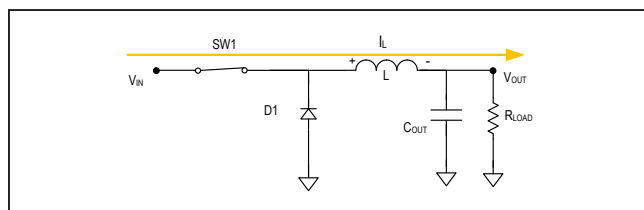

Figure 8. Operation when switch is closed.
A buck or step-down converter is a DC-to-DC power converter that steps down an input voltage to an output voltage of lower value. We achieve this using a switch and diode to deliver a ratio of the input voltage to an output voltage of lower value while keeping the current constant. When SW1 is closed, D1 is reverse-biased, the input voltage (V_{IN}) is applied across the inductor (L), and current is applied to the load. As the current is passing through the inductor, it stores energy in the form of a magnetic field. See Figure 8.